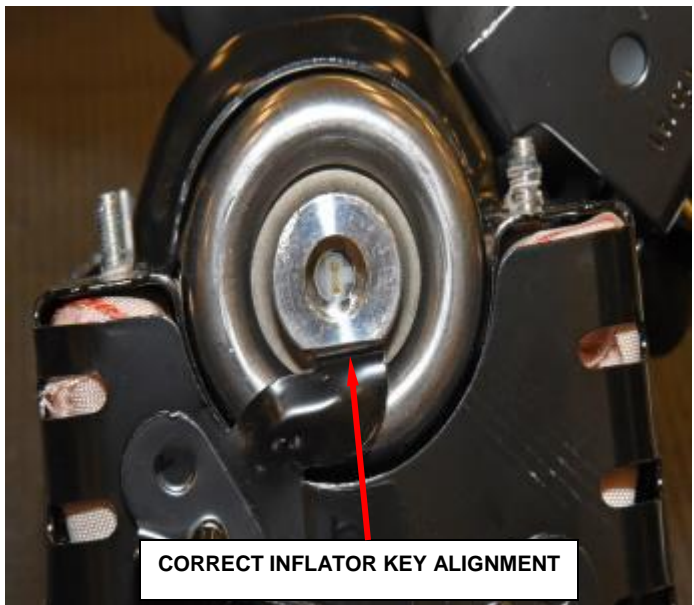

Figure 57 – Check for Inflator Key Alignment
- k. Ensure that the inflator’s key is still lined up with the housing’s key (Figure 57).